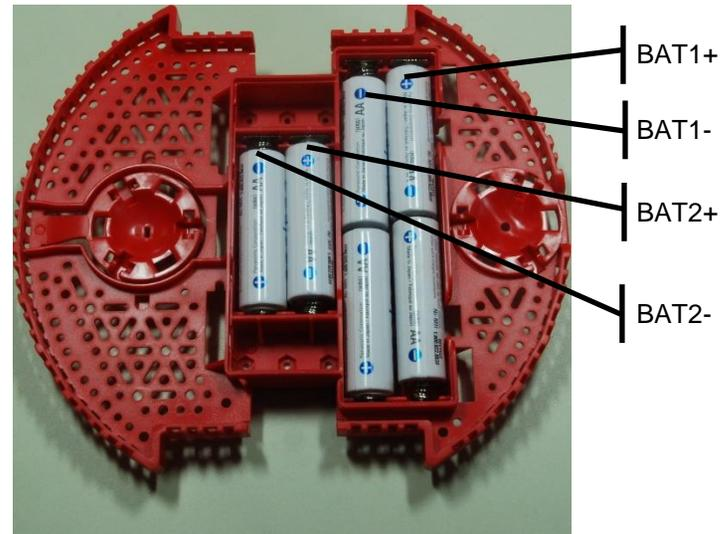

Figure 1. Romi Chassis holds 6 AA batteries.
In order to test the robot's batteries, we begin by constructing the battery storage components for the Romi Chassis. Figure 1 shows the bottom of the chassis with the six NiMH batteries. Without the **MDPDB** attached, there should be about  $4 \times 1.2V = 4.8V$  across BAT1+ to BAT1-, and there should be about  $2 \times 1.2V = 2.4V$  across BAT2+ to BAT2-. The **MDPDB** will connect BAT1- to BAT2+, and it will connect BAT2- to ground, so there will be 7.2V from BAT1+ to ground.
- 8) Drop the four battery terminals from the top, looking at Figure 1 and orienting the Bat+ signals with the positive side of the battery (tab) and the Bat- signals with the negative side of the battery (spring). Screw the **MDPDB** to the chassis using the two screws and nuts provided in the **MDPDB** kit. See Figure 1 and follow directions from Pololu.
- 9) Double check the positive and negative alignment. Solder the four battery terminals from the chassis to the **MDPDB**. We suggest you solder the terminals after it is aligned with the screws and nuts. The board can still be detached from the robot by removing the screws and squeezing the battery springs. See Figure 1 and follow directions from Pololu.